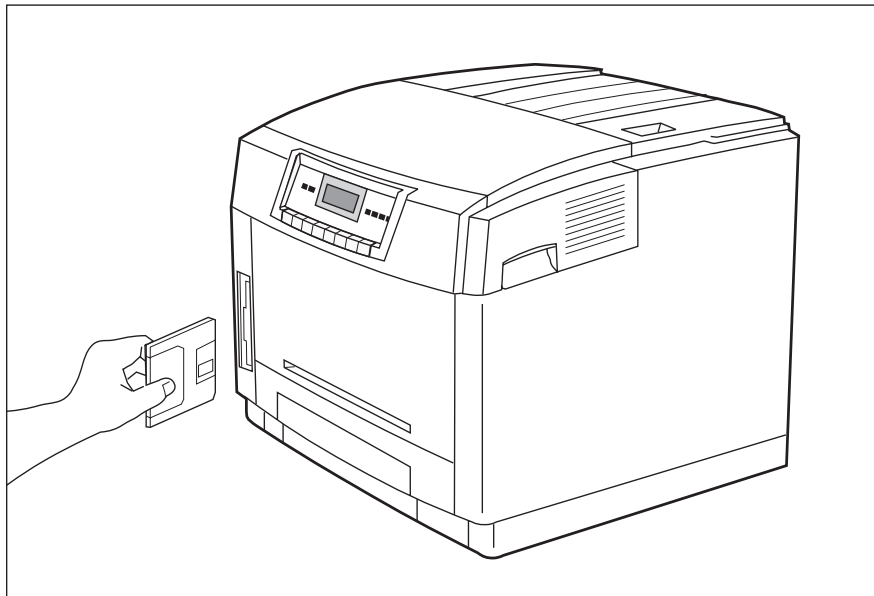

Figure 4-2: Using the Media Server
2. Insert the disk into the Media Server's disk drive as shown in Figure 4-2.
1. Insert the disk into the Media Server's disk drive as shown in Figure 4-2.